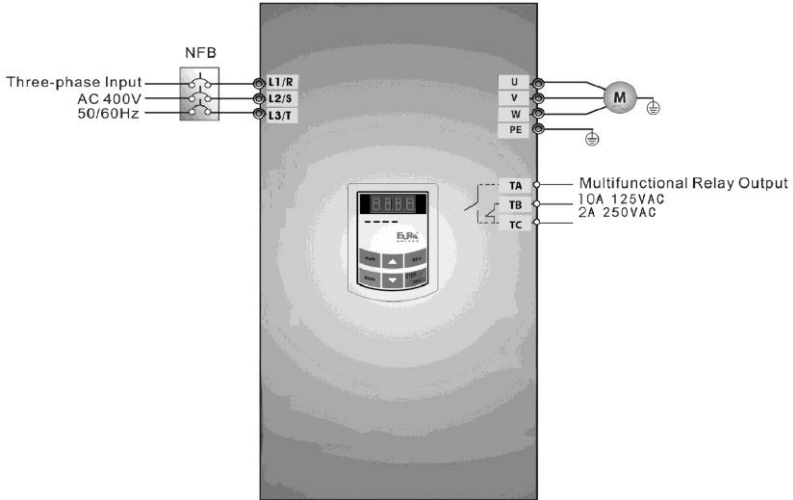

Figure 5-7 Wiring Diagram 1
- (1) Connect the wires in accordance with Figure 5-7. After having checked the wiring successfully, switch on the air switch, and power on the inverter.
- (2) Press the “Fun” key, to enter the programming menu.
- (3) Measure the parameters of the motor
- (1) Connect the wires in accordance with Figure 5-7. After having checked the wiring successfully, switch on the air switch, and power on the inverter;
- (3) Study the parameters of the motor: the operation process is the same as that of example 1.
- (4) Set functional parameters of the inverter: